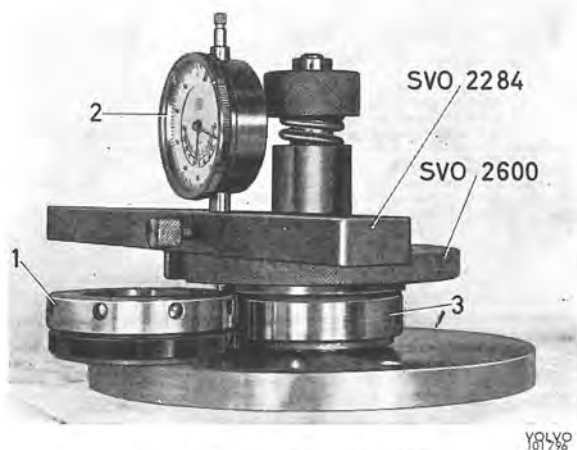

Fig. 4-159. Determining shim thickness
3. Place the rear pinion bearing complete with the outer ring in measuring fixture 2600. Put on the plate, spring and nut. Turn the nut with the flat side facing upwards. The plate, and thereby the bearing, is turned forwards and backwards several times so that the rollers take up the correct position. Place the adjusting ring in the measuring fixture as shown in Fig. 4-159. Use retainer 2284 and dial indicator, place the measuring point of the indicator opposite the adjusting ring and zero-set the indicator. Then set the pointer of the indicator to the outer ring of the bearing. The dial indicator now shows directly the thickness the shims should have. Measure the shims for the correct thickness with a micrometer, see Fig. 4-160. NOTE. It is almost impossible to obtain a shim with exactly the correct thickness. However, they must not be 0.03 mm (0.0012") thicker than the measured value, but up to 0.08 mm (0.0032") thinner.
Rotate the plate forwards and backwards several times. Put on the dial indicator and retainer 2284. Zero-set the indicator to the adjusting ring and then place the measuring point facing the bearing, see Fig. 4-159. Read off the indicator. With a micrometer measure the shims, the total thickness of which corresponds to the read-off value + 0.07 mm (0.003"). Place the shims together with the measured bearing to the one side. Repeat the above procedure with the other bearing.